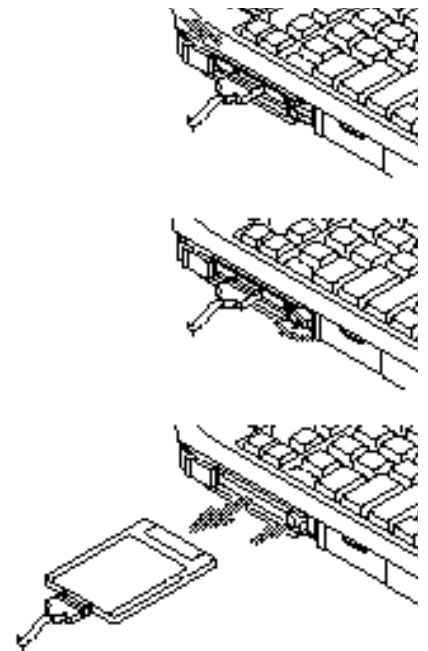

Figure 4-3 Installing and Removing a PC Card
3. Insert the PC Card in the card slot, with the product name label facing up. (Figure 4-3.)
6. When the card is installed, lock it in place by sliding the Lock button toward the front of your notebook. (Figure 4-3.)